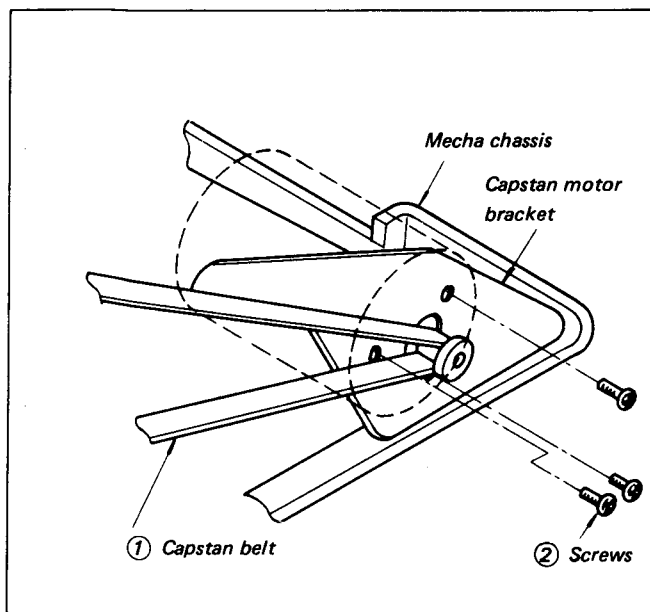

Fig. 3-3. Replacement of DC Motor (1)
- (1) Stand the machine on its left side and remove the SYSCON printed wiring board.
- (2) Remove the DC motor from the DC motor bracket, following steps 1 and 2 shown in Fig. 3-3.